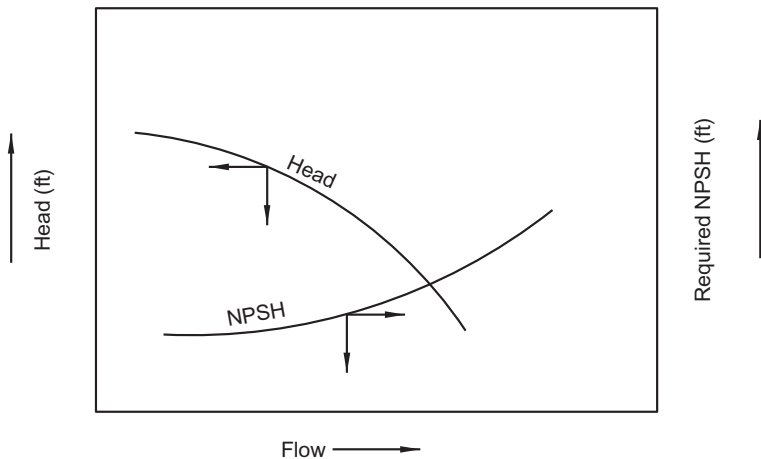

FIG. 30.2 Manufacturer's pump curve showing required NPSH.
“Mr. Norm, we learned about pump net positive suction head (NPSH) today at University. First, you got your required NPSH. You read that from the pump curve (Fig. 30.2). As the flow goes up, the required NPSH increases.
1. The NPSH as shown on the pump curve (Fig. 30.2).